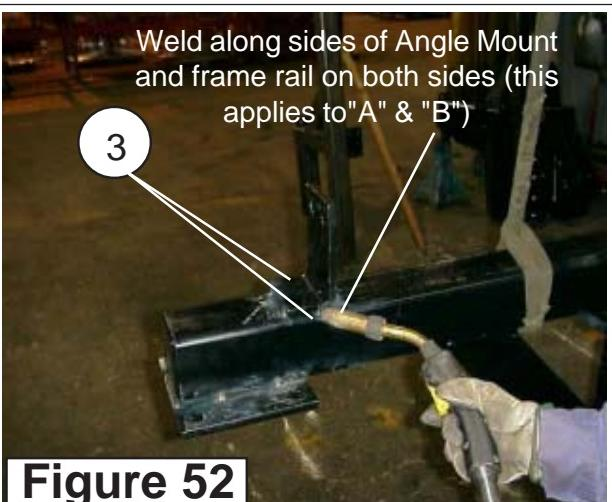
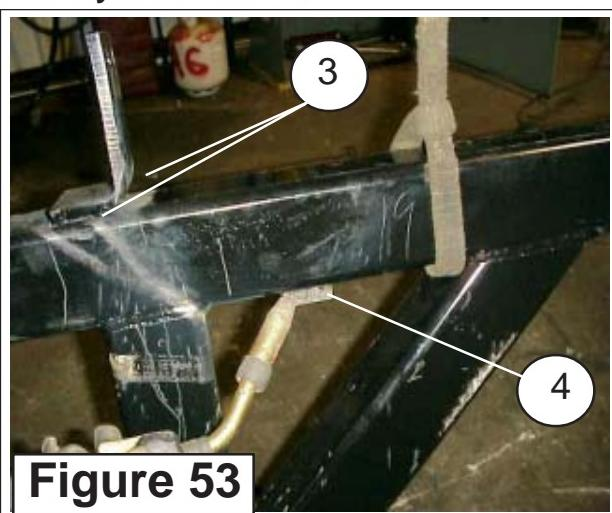

Figure 52
Figure 53
3. Weld Front Angle Mount. Weld the Front Angle Mount to the Frame Rail on the Sides running parallel to the Frame Rail, Not across Frame Rail (**See Figure 52 & 58**). Weld the Rear Angle Mount to Frame rail the same as the front (**See Figure 53**).
4. Bar Mounting Strap. Weld these all the way around, first check your measurements for placement. The Bar Mounting Straps are cut and must be placed to where they will line up with the ones that you welded to the High frame mounting tubes earlier. (**See Figure 53**)